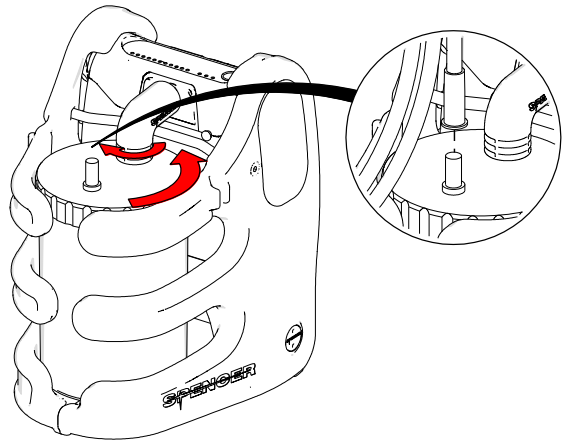

Fig. 11
3. Connect the patient tubing (n°17 paragraph 3.2) to the plug of the canister in the door marked with the words "Patient". Verify that all connections are tight to prevent leakage of liquids and depression (fig. 11).